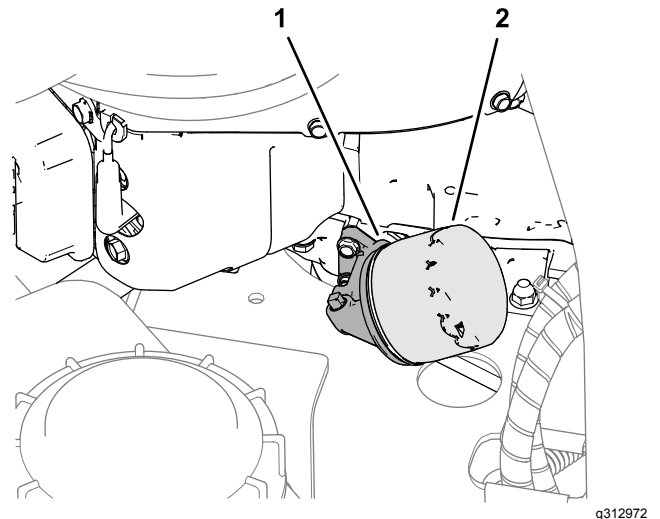

**Figure 74**
5. Stow the drain hose as shown in Figure 74.